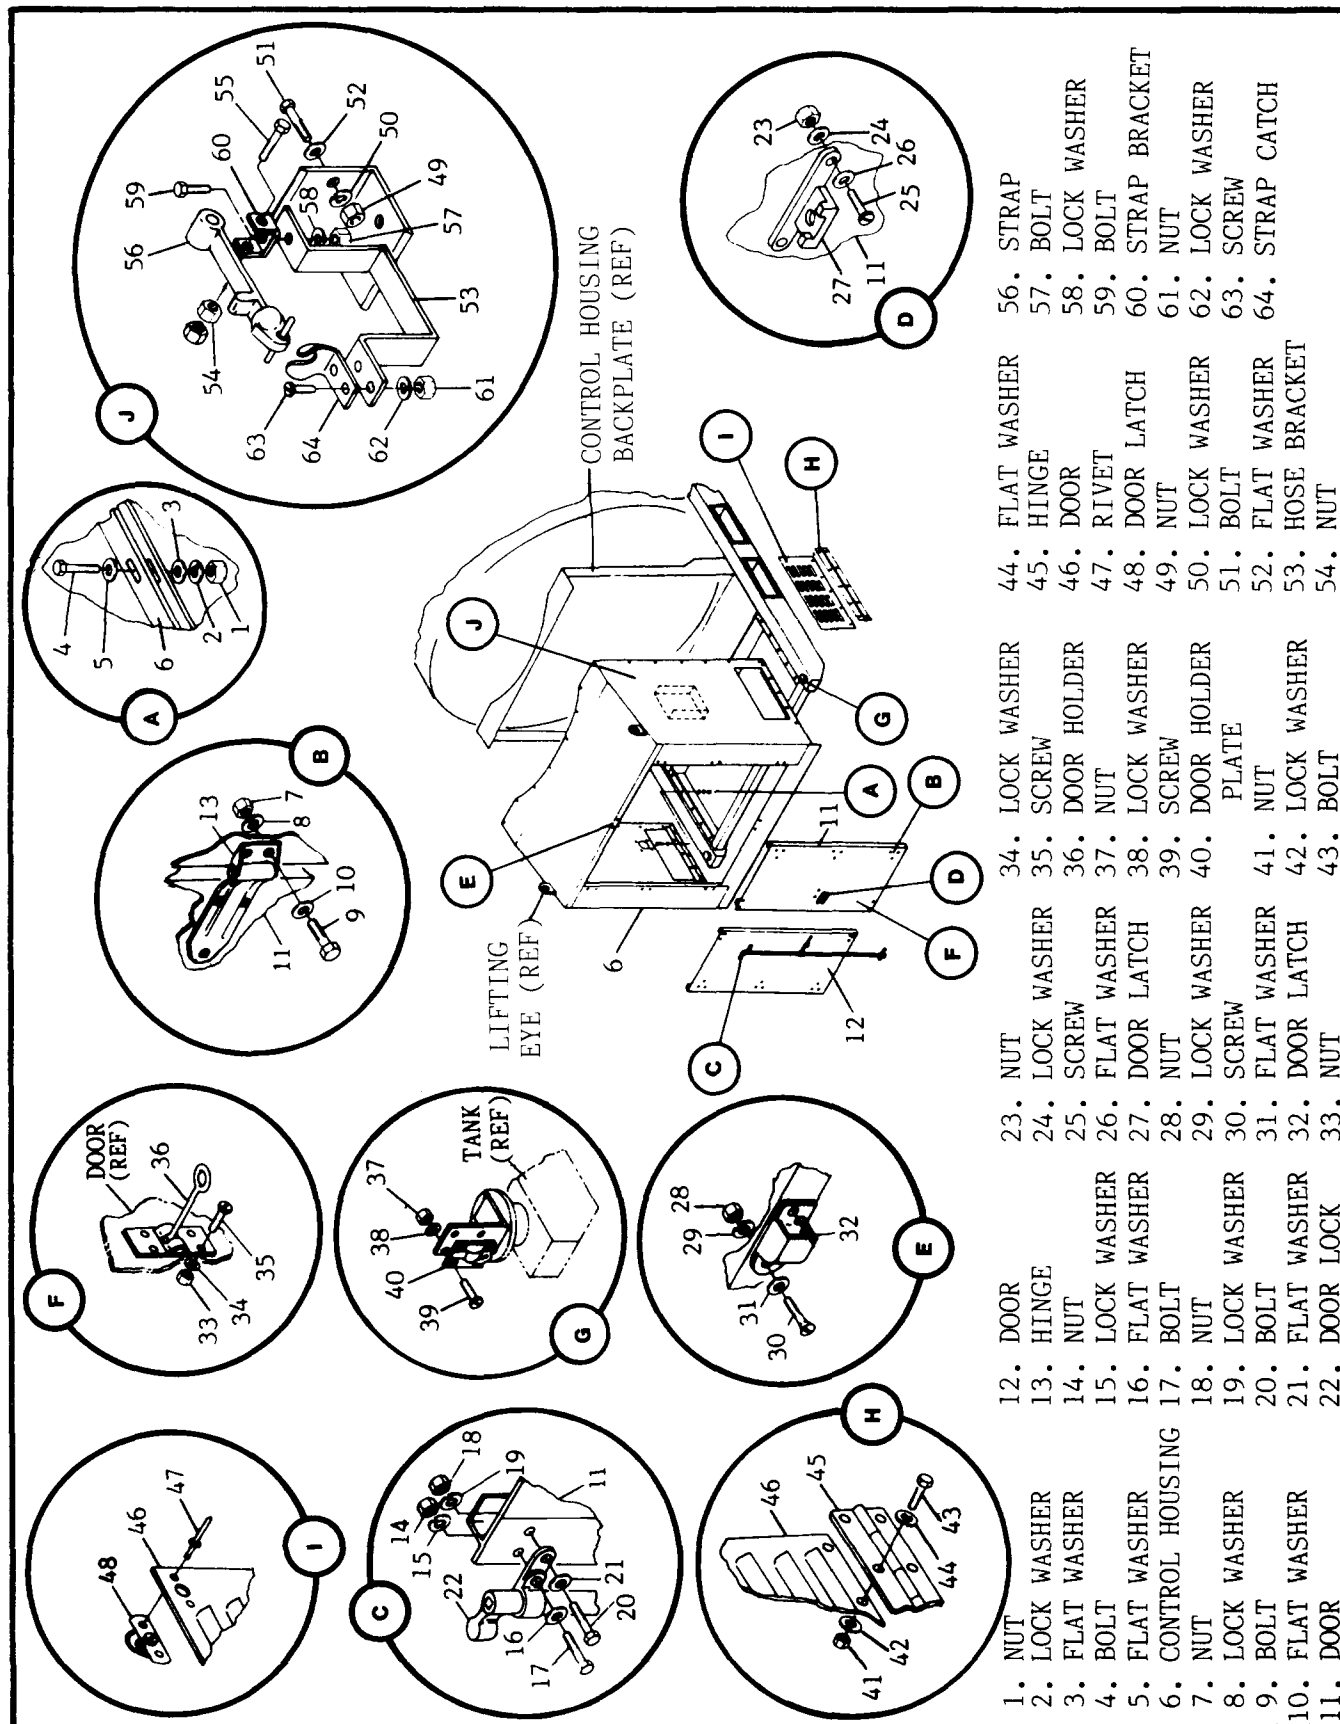

Figure 3-1. Control Housing and Components.
3-2.2 Disassembly Procedures. The disassembly of the Tank is generally in the order of the index numbers assigned to components in Figures 3-1 through 3-10. Instructions first outline procedures for complete disassembly. Since this may not always be desirable, necessary, and practical to effect repairs procedures are also given for component disassembly. The steps for component disassembly reference steps in the complete disassembly. Disassemble the Tank only to the extent required for replacing defective parts. In some instances, disassembly instructions are included for components which are not disassembled or removed from the Tank except for obvious failure (e.g. vacuum line shutoff valve (V-1)). The instructions for the removal of these items will be preceded by a note of caution to prevent accidental tampering which could delay a mission. The orderly disassembly of the Tank is as follows:
3-2.2.1 Control Housing (CH) Removal and Disassembly (See Figure 3-1). The CH protects the control valves, indicators, and piping. The Tank has been designed for repair or replacement of Tank components within the CH without requiring the CH to be removed. Removal of the CH should be limited to repair of the CH backplate or replacement of the CH due to its weight (approximately 400 lbs). When removal is required two (2) lifting eyes on top of the CH have been provided for lifting. Lifting should be done with a crane using common slings or cables. Two (2) hinged front doors provide access to Tank components inside the CH. Two (2)